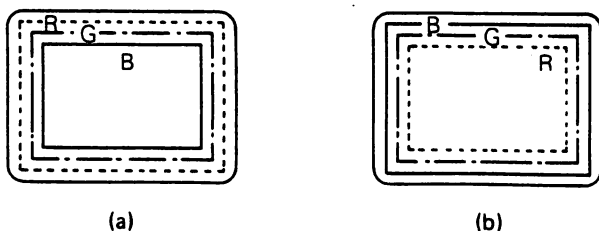

Figure 5-18
- b. After making the adjustment in step a., residual mis convergence pattern will be either (a) or (b) as shown in Figure 5-18.
If the red cross-hatch line deviates outside the blue cross-hatch line in the peripheral area as shown in Figure 5-18 (a), move the deflection yoke counter-clockwise (as viewed from the top of the tube) by rotating the adjustment handle of the deflection yoke, in order to minimize the misconvergence between the red and blue horizontal lines at the top and the bottom of the screen as well as the misconvergence between the red and blue vertical lines at the left and right of the screen.
If the blue line deviates outside the red line as shown in Figure 5-18 (b), move the deflection yoke clockwise (as viewed from the top of the tube).